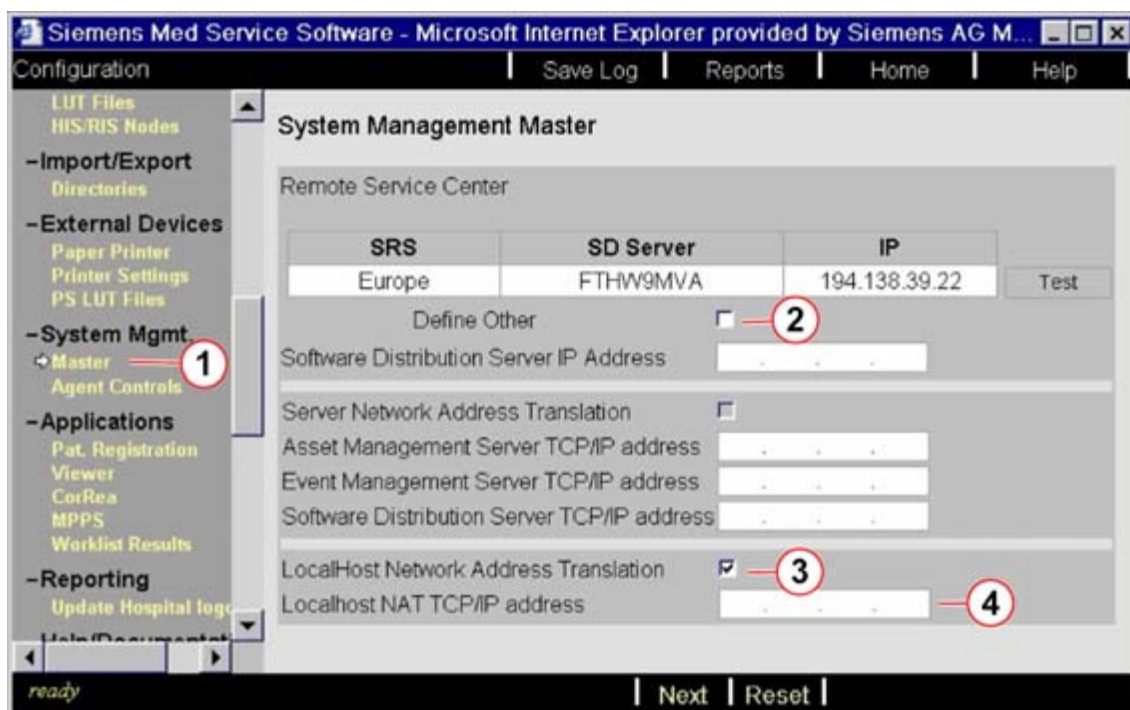

Fig. 28: SRS master page with inside NAT option activated
4. Activate the checkbox “Localhost Network Address Translation”; see \(3/Fig. 28 / p. 50\).
5. Enter the inside NAT IP address given by the hospital network administrator in the field “Localhost NAT TCP/IP address”; see \(4/Fig. 28 / p. 50\)